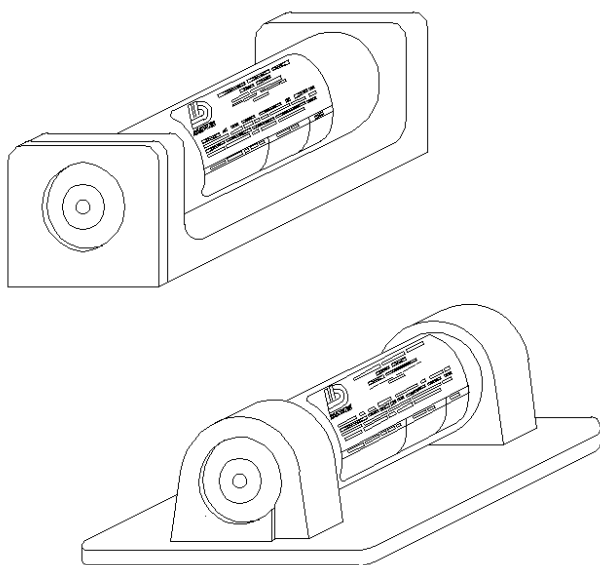

Figure 1. DK Series Underwater Acoustic Beacon Installed in Mounting Kits
1.1.1. GENERAL. This manual contains the description, theory, installation and maintenance for the DK100/DK120/DK130/DK140 Underwater Acoustic Beacon, hereafter referred to as the "DK Series", manufactured by Dukane Corporation, Seacom Division, 2900 Dukane Drive, St. Charles, Illinois, 60174. See Figures 1 and 2. These beacons have been tested to, and meet, or exceed, all requirements of FAA TSO-C121.
1.2.2. BEACON MOUNTING. The beacon is mounted to a flight recorder or the airframe by means of a mounting kit (See Section II). This mount consists of an extruded channel, which in conjunction with a securing plate retains the beacon. Figure 1 shows the beacon mounted in the N30A21A Mounting Kit, a strap-type mount. This mount is used for applications where space limitations do not permit the use of the simpler N30A26 Series cradle mount.